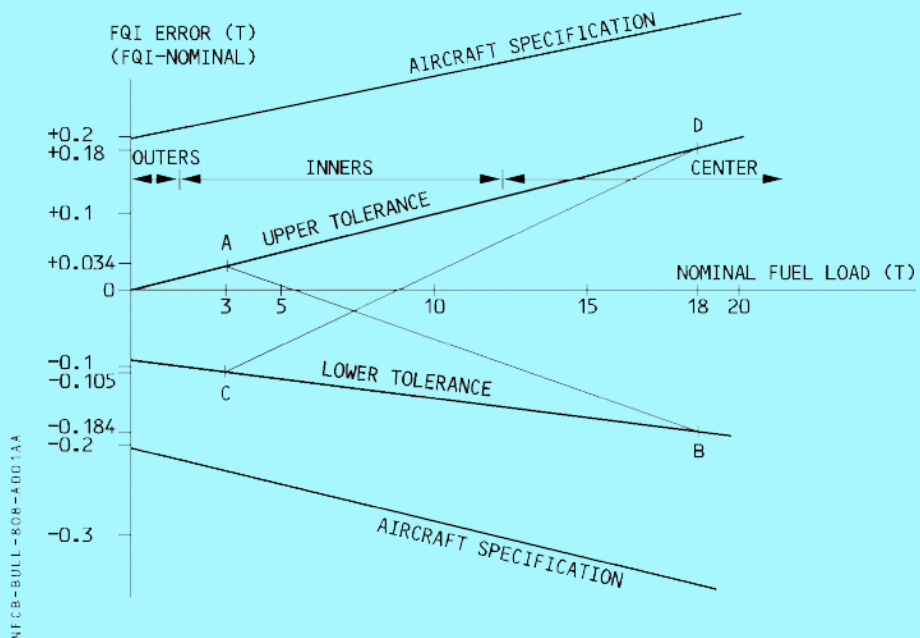

FIGURE 1
Each aircraft is checked on ground prior to delivery to be within the tolerances shown on the following graphs (Figure 1).
- 2) No FQI system modification has been performed since the last FQI calibration. All FQI readings are within the ground tolerances (refer to Figure 1).